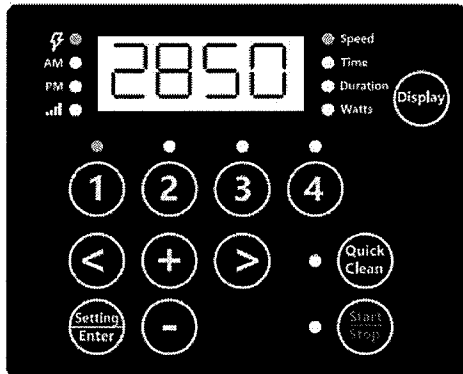

Figure 9
2. Press “1”. The SPEED 1 LED and the “Speed” parameter LED will blink while editing. See **Figure 9**.